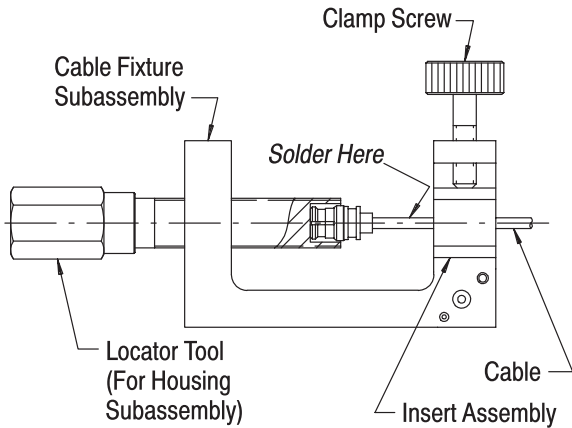

Figure 4
9. Place the assembly in the cable fixture subassembly as shown in Figure 4. Tighten the clamp screw to secure the cable, and tighten the locator tool to seat the housing subassembly firmly against the cable.
10. Using solder made of 60% tin and 40% lead, join the housing subassembly to the cable at the location shown in Figure 4.